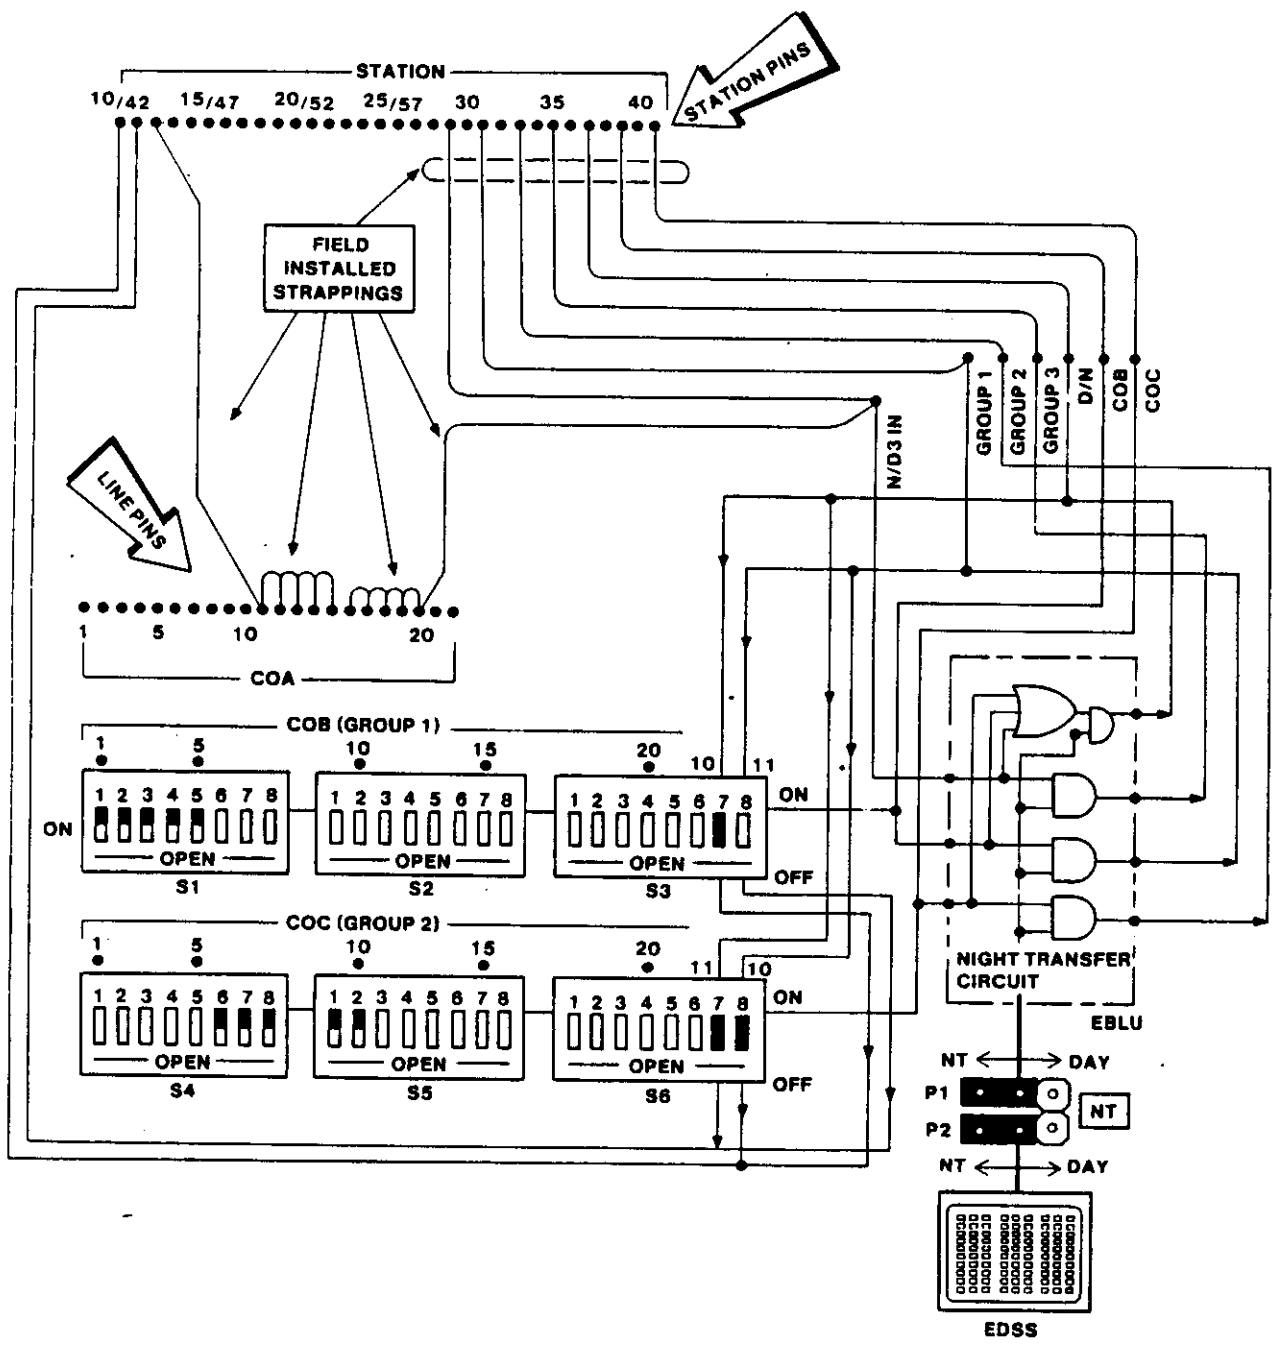

FIGURE 8—MULTIPLE EASU RING PROGRAMMING
2.5.9.8 Figure 8 illustrates the EASU PCB's potential for multiple ring arrangements: